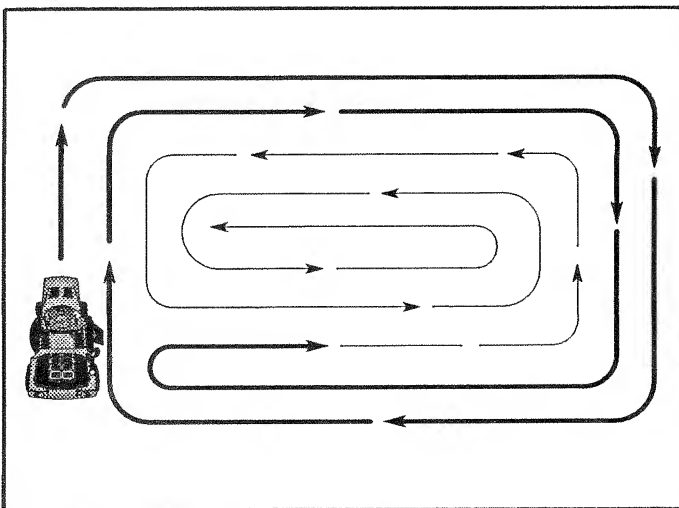

FIG. 15
- When mowing large areas, start by turning to the right so that clippings will discharge away from shrubs, fences, driveways, etc. After one or two rounds, mow in the opposite direction making left hand turns until finished (See FIG. 15).